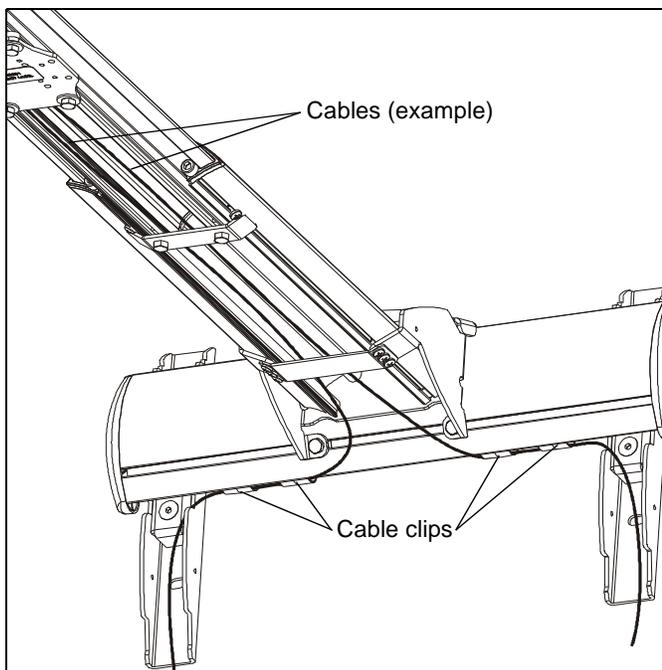

Figure 29
8. Route cables through cover mount, projector arm tunnel and into projector. (See Figure 29)